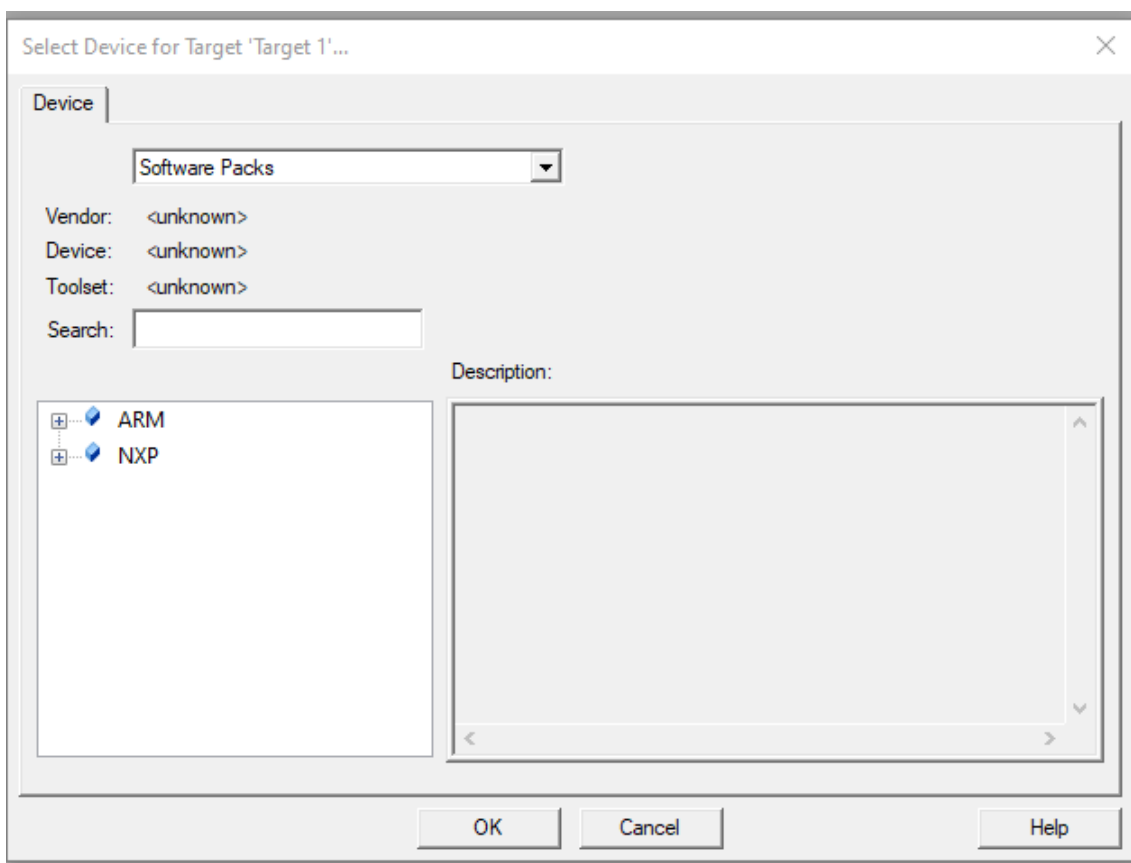
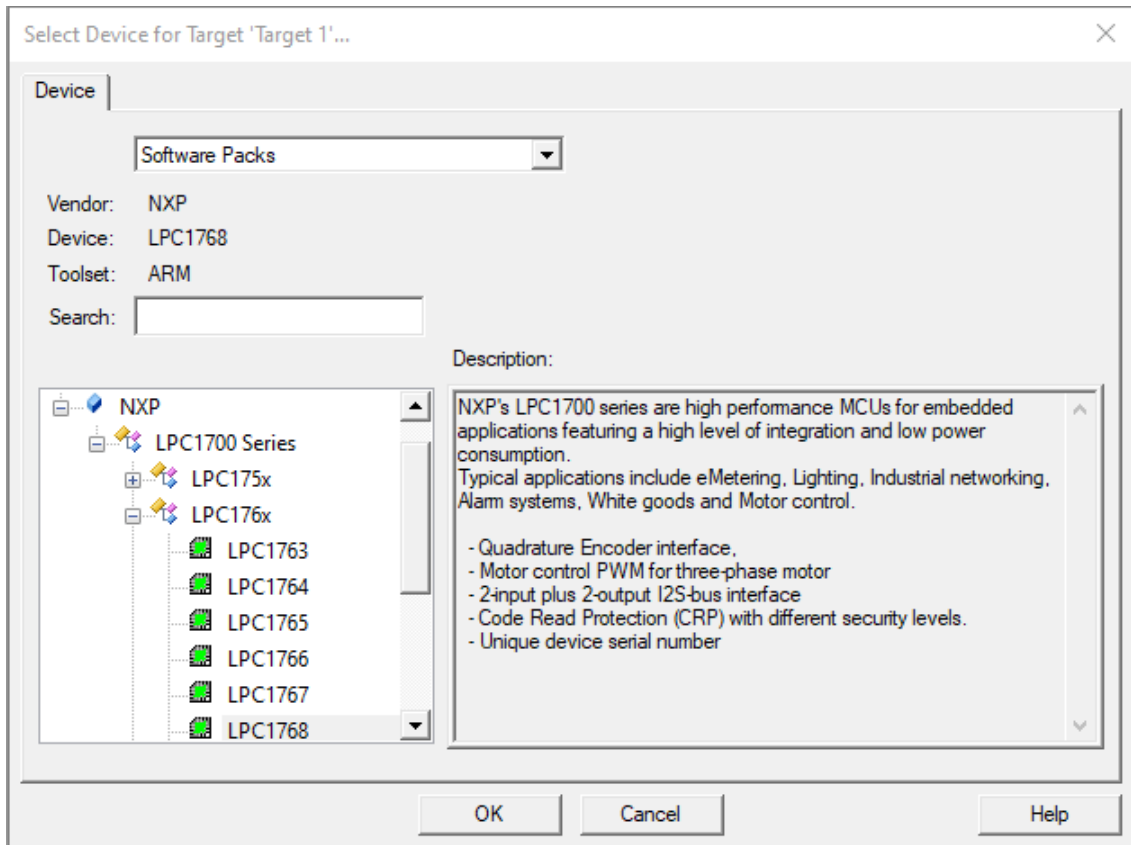

Figure 19
Figure 20
2. Pulse Project-New uVison Project and save it in a file previously created. Then a window like Figure 19 one appears. We are going to select our device, pulse NXP-LPC1700 series-LPC176x-LPC1768 as is shown in Figure 20 and pulse OK.